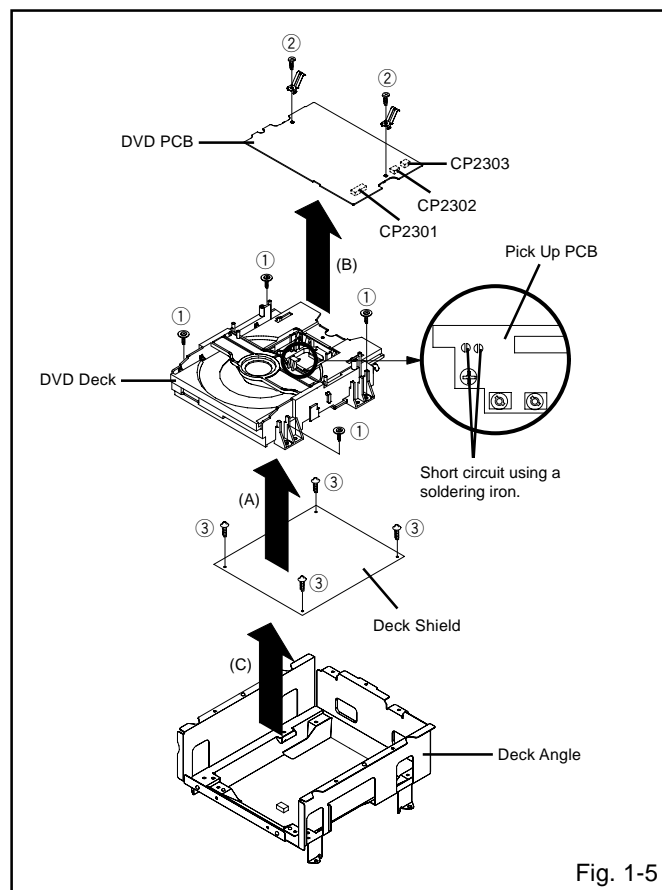

Fig. 1-5
1-5: DVD PCB/DVD DECK (Refer to Fig. 1-5)
1. Short circuit the position shown in **Fig. 1-5** using a soldering iron. If you remove the DVD Deck with no soldering, the Laser may be damaged.
2. Remove the 4 screws ①.
3. Remove the DVD Deck in the direction of arrow (A).